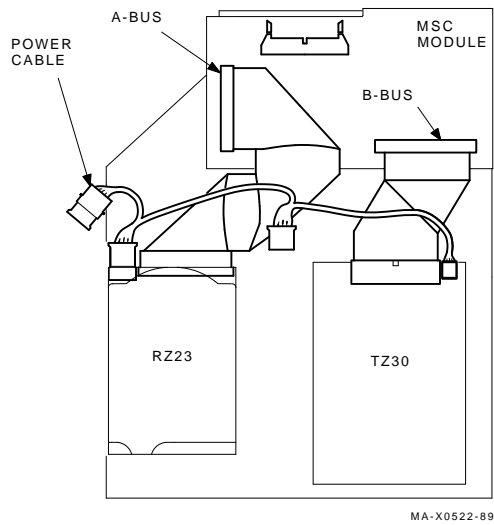

Figure 1-18 Connecting the TZ30 Data and Power Cables
3. Connect the data and power cables to the TZ30 and to the MSC module (Figure 1-18.)